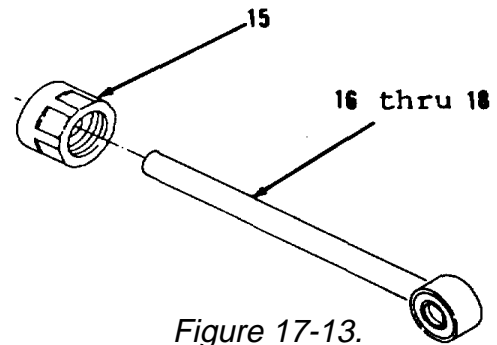

Figure 17-13.
9. Remove crown (15) from items 16 thru 18 as an assembly (Figure 17-13).
5. Remove items 18 thru 16 as an assembly (Figure 17-13) from vise.
6. Position crown (15) on items 18 thru 16 as an assembly (Figure 17-13).